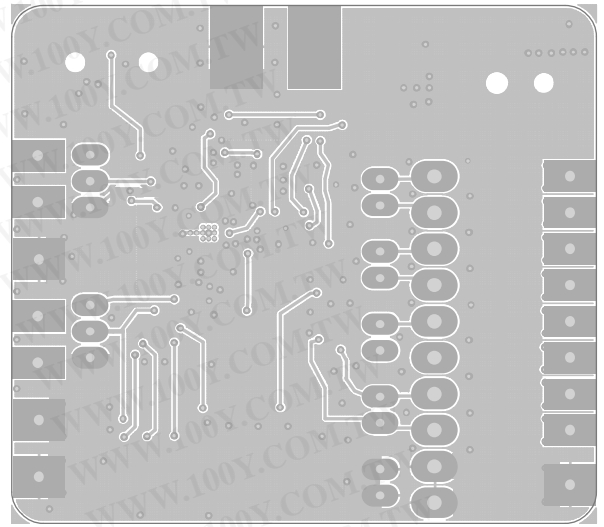
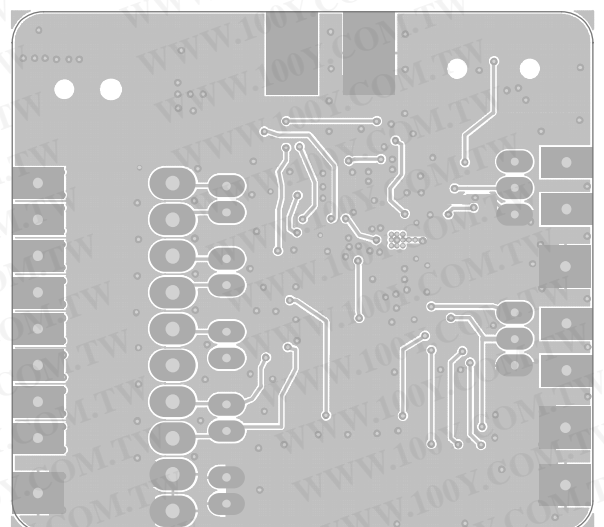

Figure 10. Bottom Layers of the Evaluation Board
Figure 11. Mirrored Bottom Layers of the Evaluation Board
- Use a solid polygon plane on the other side of the PCB for the area of the vias that are placed on the thermal pad of the chip. See Figure 10 or Figure 11. This polygon serves as both the EMI shielding ground plane and the heat sink for the SSM2306.